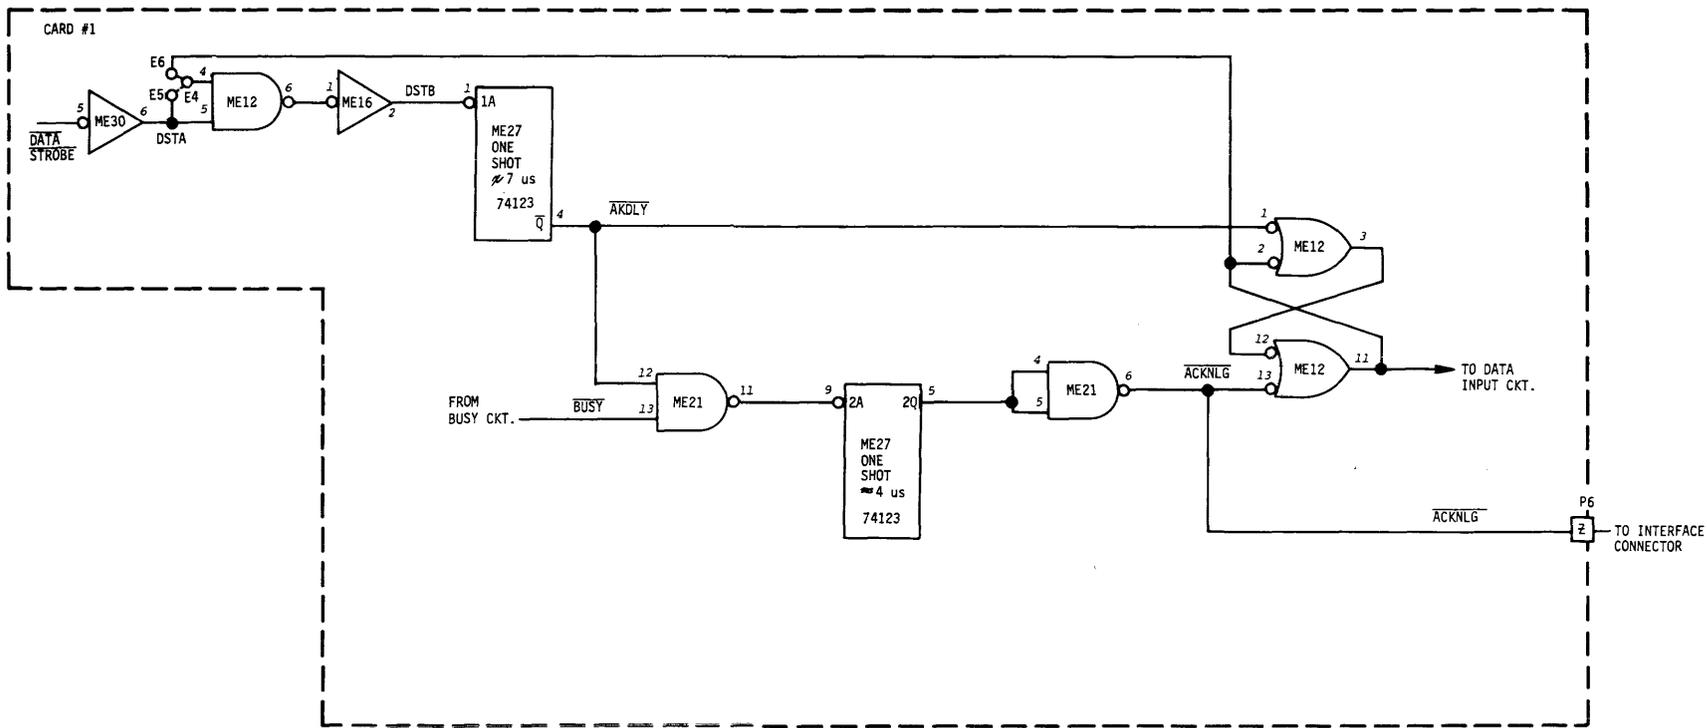

Figure 4-9. ACKNOWLEDGE CIRCUIT
4.4.3 ACKNOWLEDGE (Figure 4-9)